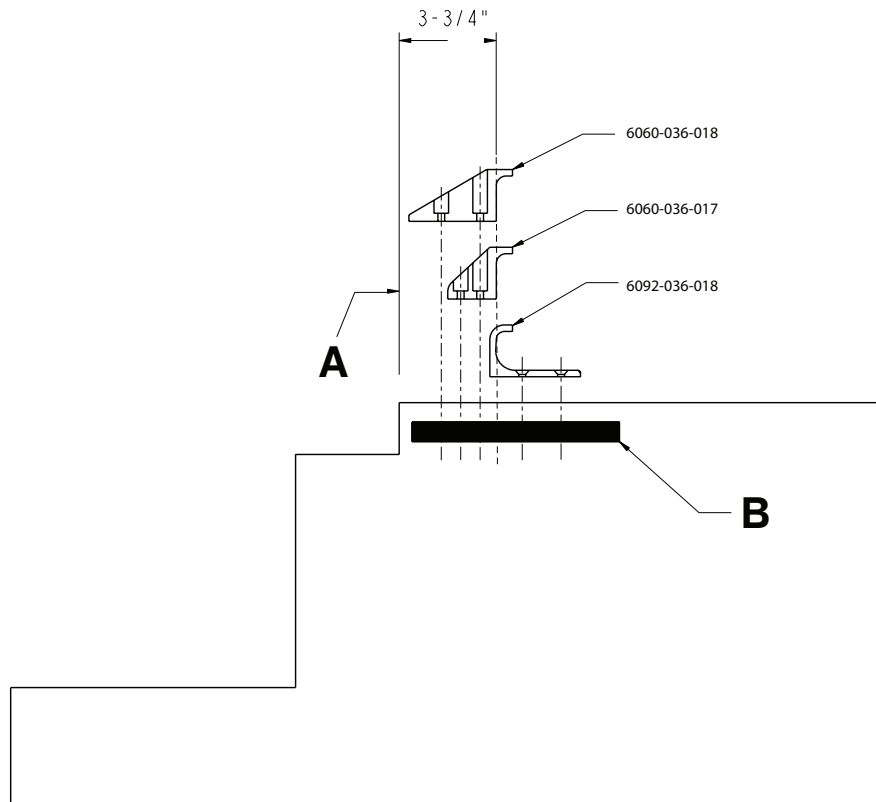

Figure 4 – Vehicle safety hook placement
2. Position the vehicle safety hook at least 3-3/4 in. from the leading edge of the door sill (A) (Figure 4). The recommended distance from the face of the safety hook is no less than 3-3/4 in.